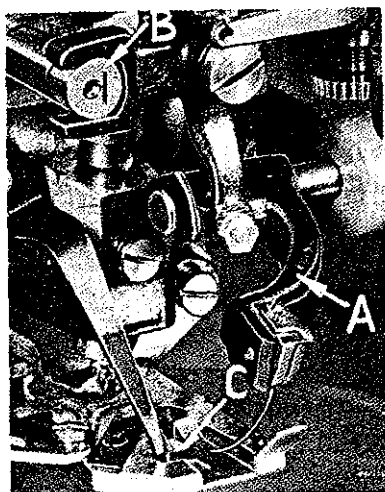
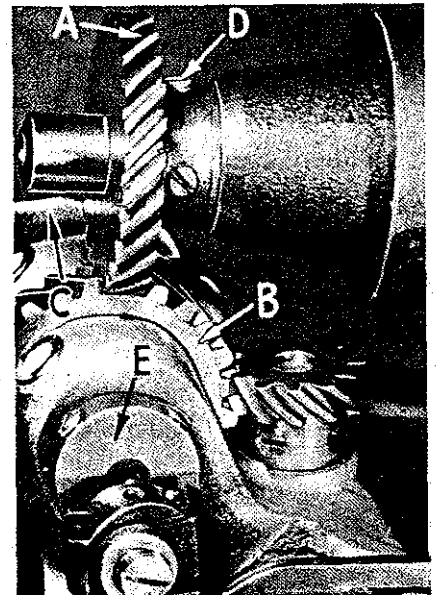
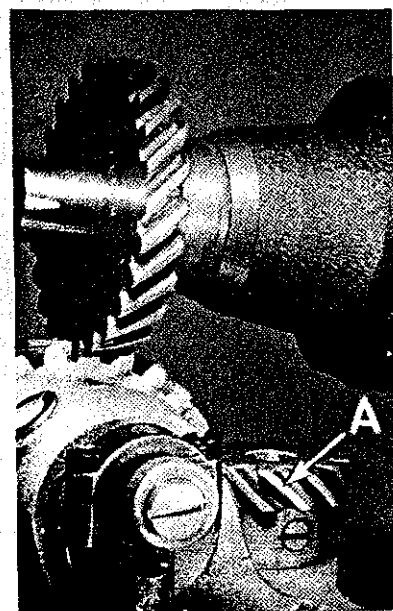
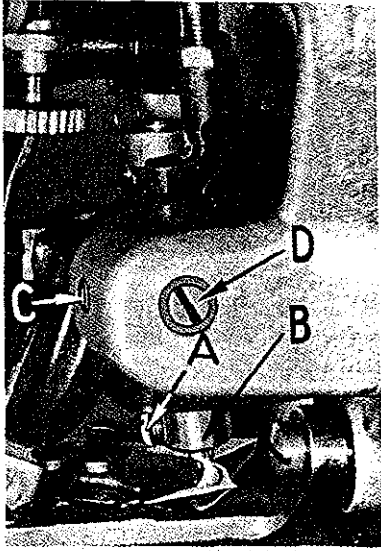

Fig. 3
Fig. 2
Fig. 6
Fig. 7
Remove head cover. With machine in stop position, remove gear (A, Fig. 2) from main shaft. Turn head main shaft gear (B) until the take-up lever (C) is at its highest point. Replace main shaft gear (A) with spot screw (D) in line with timing slot in main shaft. Tighten screws.
With machine in stop position, loosen screws in the needle drive crank (E, Fig. 2), and turn crank until needle carrier (A, Fig. 3) is at highest point of travel, and tighten screws in crank.
Loosen set screws in the looper drive shaft gear (A, Fig. 6). Turn pulley in operating direction until needle has reached the forward end of its left side travel and returned $\frac{3}{32}$ inch. Turn looper and its shaft so that the point of looper is over center of needle, and tighten set screws in gear (A). Lower point of looper as close to the needle as possible without deflecting the needle. Loosen screw (A, Fig. 7) to make this adjustment.
To check adjustment of needle height, turn the pulley in operating direction until screw (A, Fig. 7) in looper driving gear (B) points to right of machine. At this point the needle point should be approximately 1/16 inch past the front edge of needle guide (C, Fig. 3) on presser foot, and just contacting needle guide.
If needle point strikes needle guard too far forward of the 1/16 inch dimension, or too hard, an adjustment can be made by loosening set screw (C, Fig. 7) and inserting a screwdriver in slot of needle carrier eccentric shaft (D). Turn eccentric shaft as required to bring needle carrier up or down and tighten set screw. After making this adjustment check and be sure there is no play between needle and needle guide when needle point is over center of plunger No. 26-173. After making this adjustment it may be necessary to reset the adjustment under "Adjust Stroke of Needle" and "Timing the Looper".